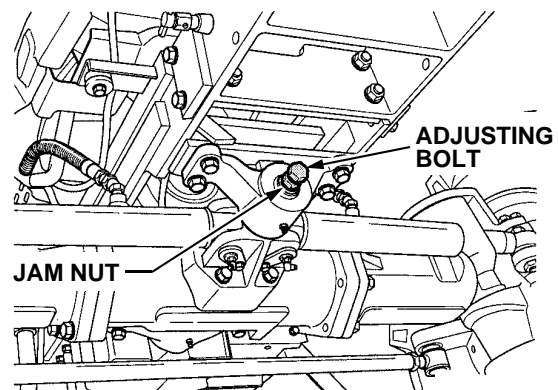

Figure 41
- If play is felt, loosen the jam nut on the adjusting bolt in the center of the front axle support. See Figure 41.